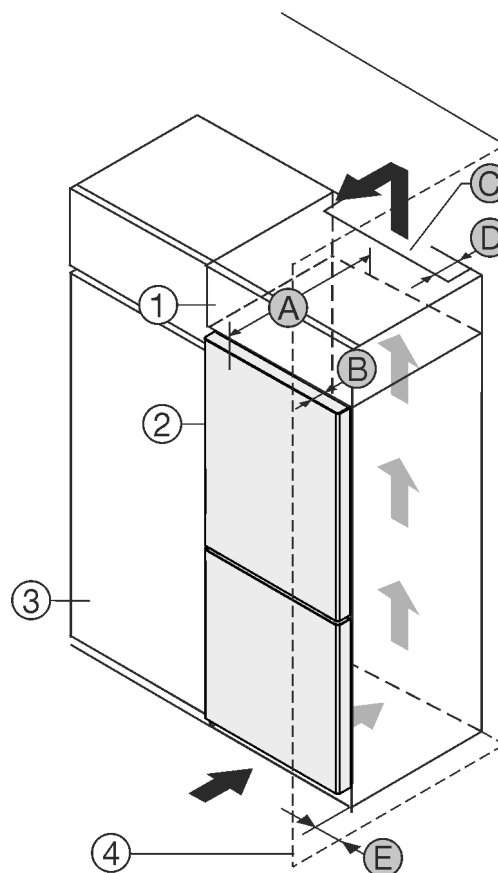

Fig. 1
- (1) Top cupboard
- (2) Appliance
- (3) Kitchen cabinet
- (4) Wall
- (A) Appliance depth
- (B) Door depth
- (C) Ventilation cross-section
- (D) Distance to the rear of the appliance
- (E) Distance to the side of the appliance
You can place the appliance directly beside the kitchen cabinet Fig. 1 (3).
There must be a ventilation shaft at the depth Fig. 1 (D) of the back of the top cupboard over the entire width of the top cupboard.
The cross section of the ventilation gap Fig. 1 (C) must be maintained below the ceiling.
If the appliance is set up with the hinges next to a wall Fig. 1 (4), the distance between the appliance and the wall must be at least 13 mm.
If the appliance is set up with the hinges next to a wall Fig. 1 (4), the distance between the appliance and the wall must be at least 20 mm.
In order to be able to fully open the door, the appliance must protrude by the depth of the door Fig. 1 (B) from the front of the kitchen cabinet. Regardless of the depth of the kitchen cabinets Fig. 1 (3) and use of wall spaces, the appliance can protrude further.